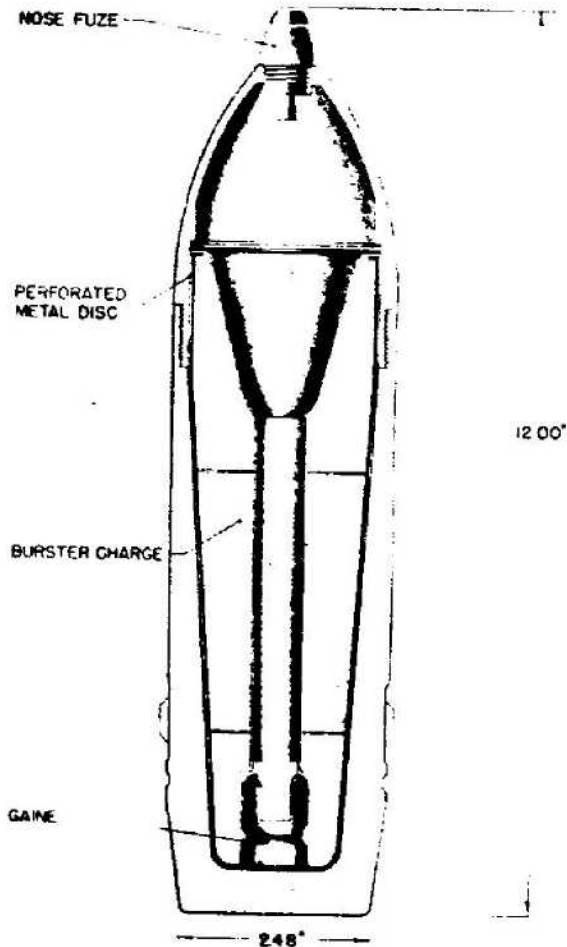

Figure 374—Hollow Charge Projectile for Tank Gun, Type B, 75-mm, 7.5-cm Gr. Patr. KwK. (H.L/B)
**GERMAN NOMENCLATURE:** 7.5-cm Gr. Patr. KwK (H. L/B) (Granate Patrone Kampfwagenkanone (Hohl Ladung/B). (See fig. 374.)